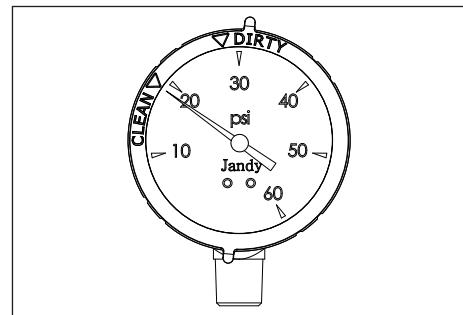

Figure 5. Pressure Gauge with Clean/Dirty Snap Ring
9. After the pressure gauge has stabilized, turn the bezel ring so that the arrow next to the word "CLEAN" aligns with the needle of the gauge. See Figure 5. As the filter cleans the water, and the cartridges begin to clog the pressure begins to increase. When the needle of the pressure gauge aligns with the arrow next to the word "DIRTY" on the bezel, it is time to clean the filter, see Section 6.3. This indicates an increased pressure of between 10 and 12 psi above original starting pressure. Ensure pump speed remains the same when recording "CLEAN" and "DIRTY" pressure.